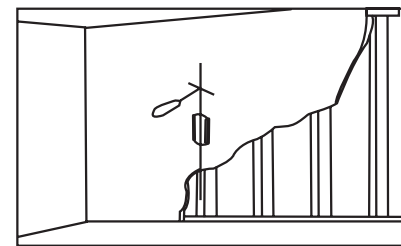

Fig 2b
Using a awl or nail to make where the nails are located, as shown as fig.2b. Distance between two nails for fixing wall mount must not less than 12". Pre-drill these holes with a 5mm drill bit to at least 50mm in deep hole. Please make sure these holes are level and located at center. Use wall mount as a template to mark the location of other three holes and drill the same holes. Fix the wall mount to the wall with 4 long bolts(J) and washers(L).